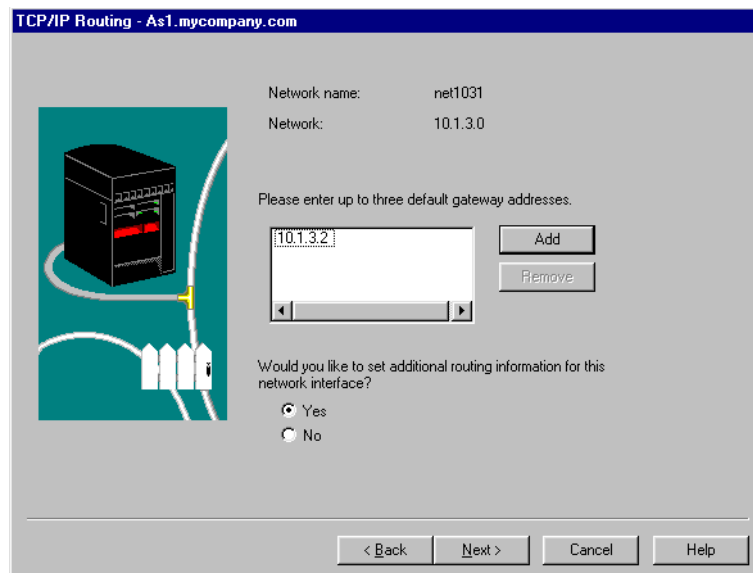
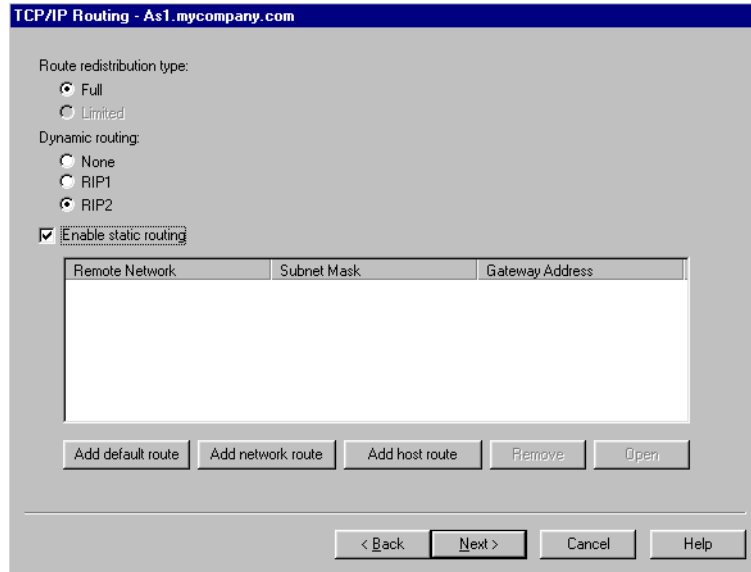
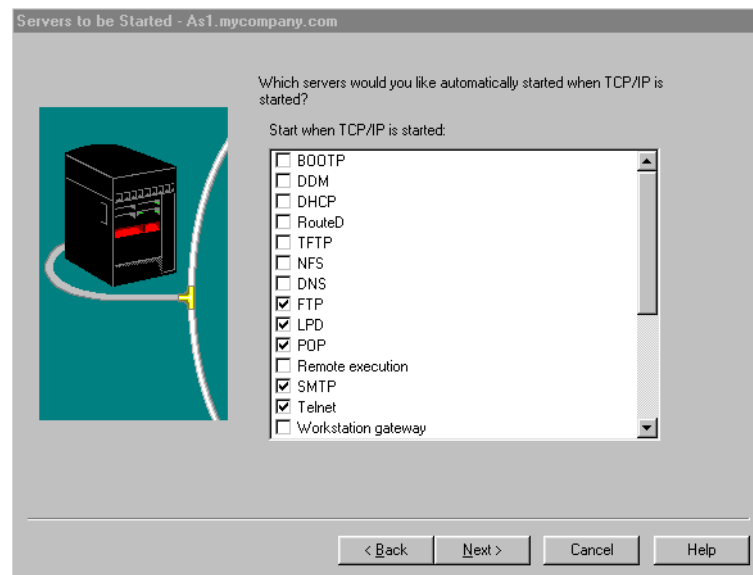

Figure 316. TCP/IP Routing
Figure 317. TCP/IP Routing additional information
Figure 320. Define Servers to Start when TCP/IP is started
After you specify all the values, click **Next**. The TCP/IP Routing window displays (Figure 316).
9. The window in Figure 316 is where you list the gateways to which this route directly connects. A *gateway* is a piece of hardware that connects two or more network segments. It is often called a *router*. You can define up to three gateway addresses. If your AS/400 system is only attached to a single network, then you do not need to specify any gateway addresses. This is also where you specify additional routing information for this interface. This may be used for load balancing or to define multiple routes for backup purposes. Click the **Yes** button to configure additional route information. Click **Next**. The TCP/IP Routing window (Figure 317 on page 542) displays.
When you have added all the route information you need, click **OK** until the TCP/IP Routing window (Figure 317) displays. Click **Next**. The Servers to be Started window (Figure 320) appears.
13. From the Servers to be Started window (Figure 320), select all the currently installed servers that you want to start automatically when TCP/IP starts. If